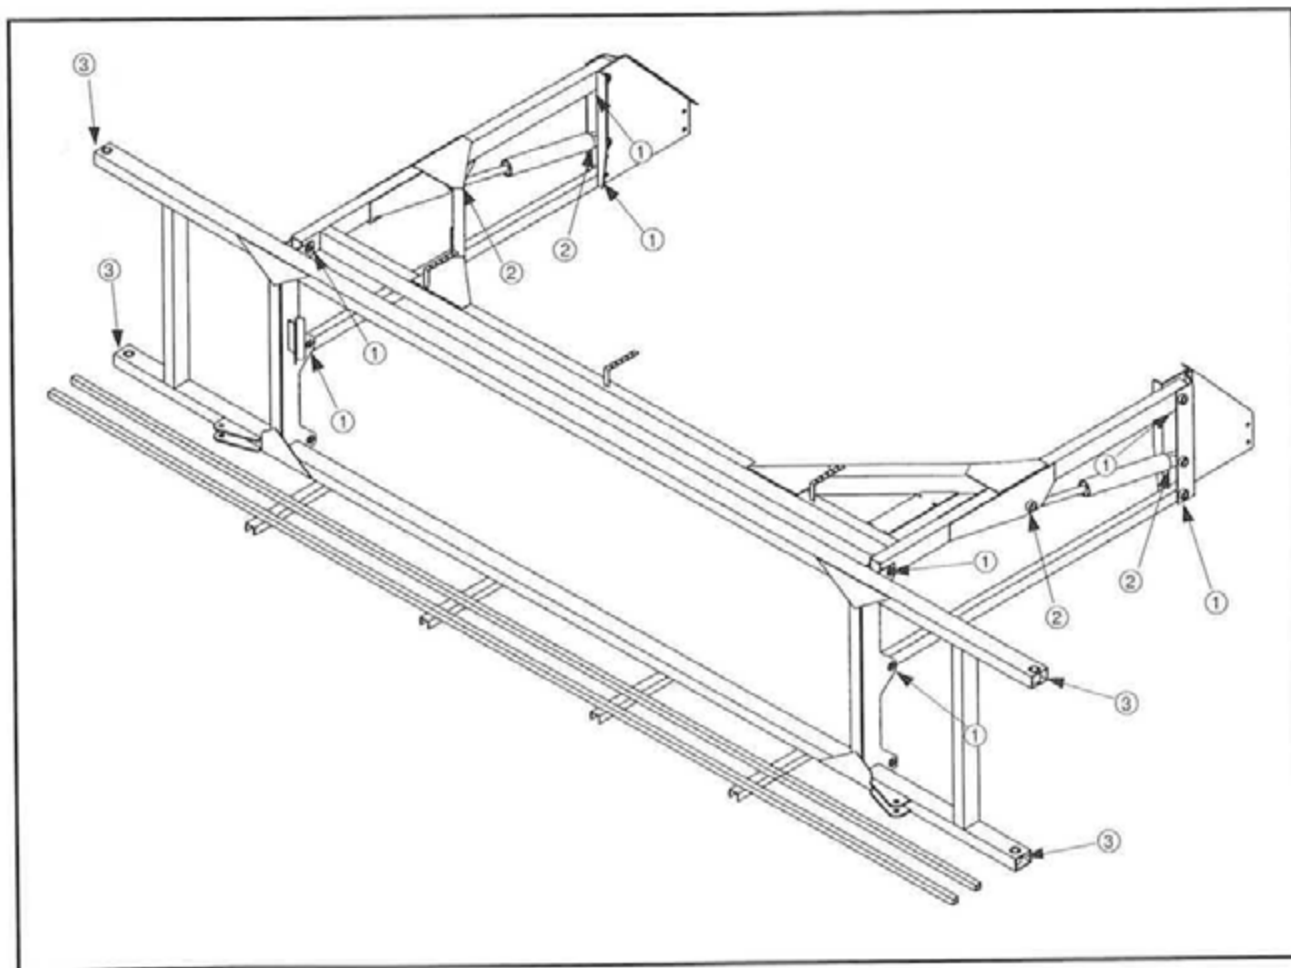

FIG 8.35
Lift arm lift pivots: eight places (fig. 8.35, items 1)
Lift cylinder pivots: four places (fig. 8.35, items 2)
Boom fold pivots on transom: four places (fig. 8.35, items 3)